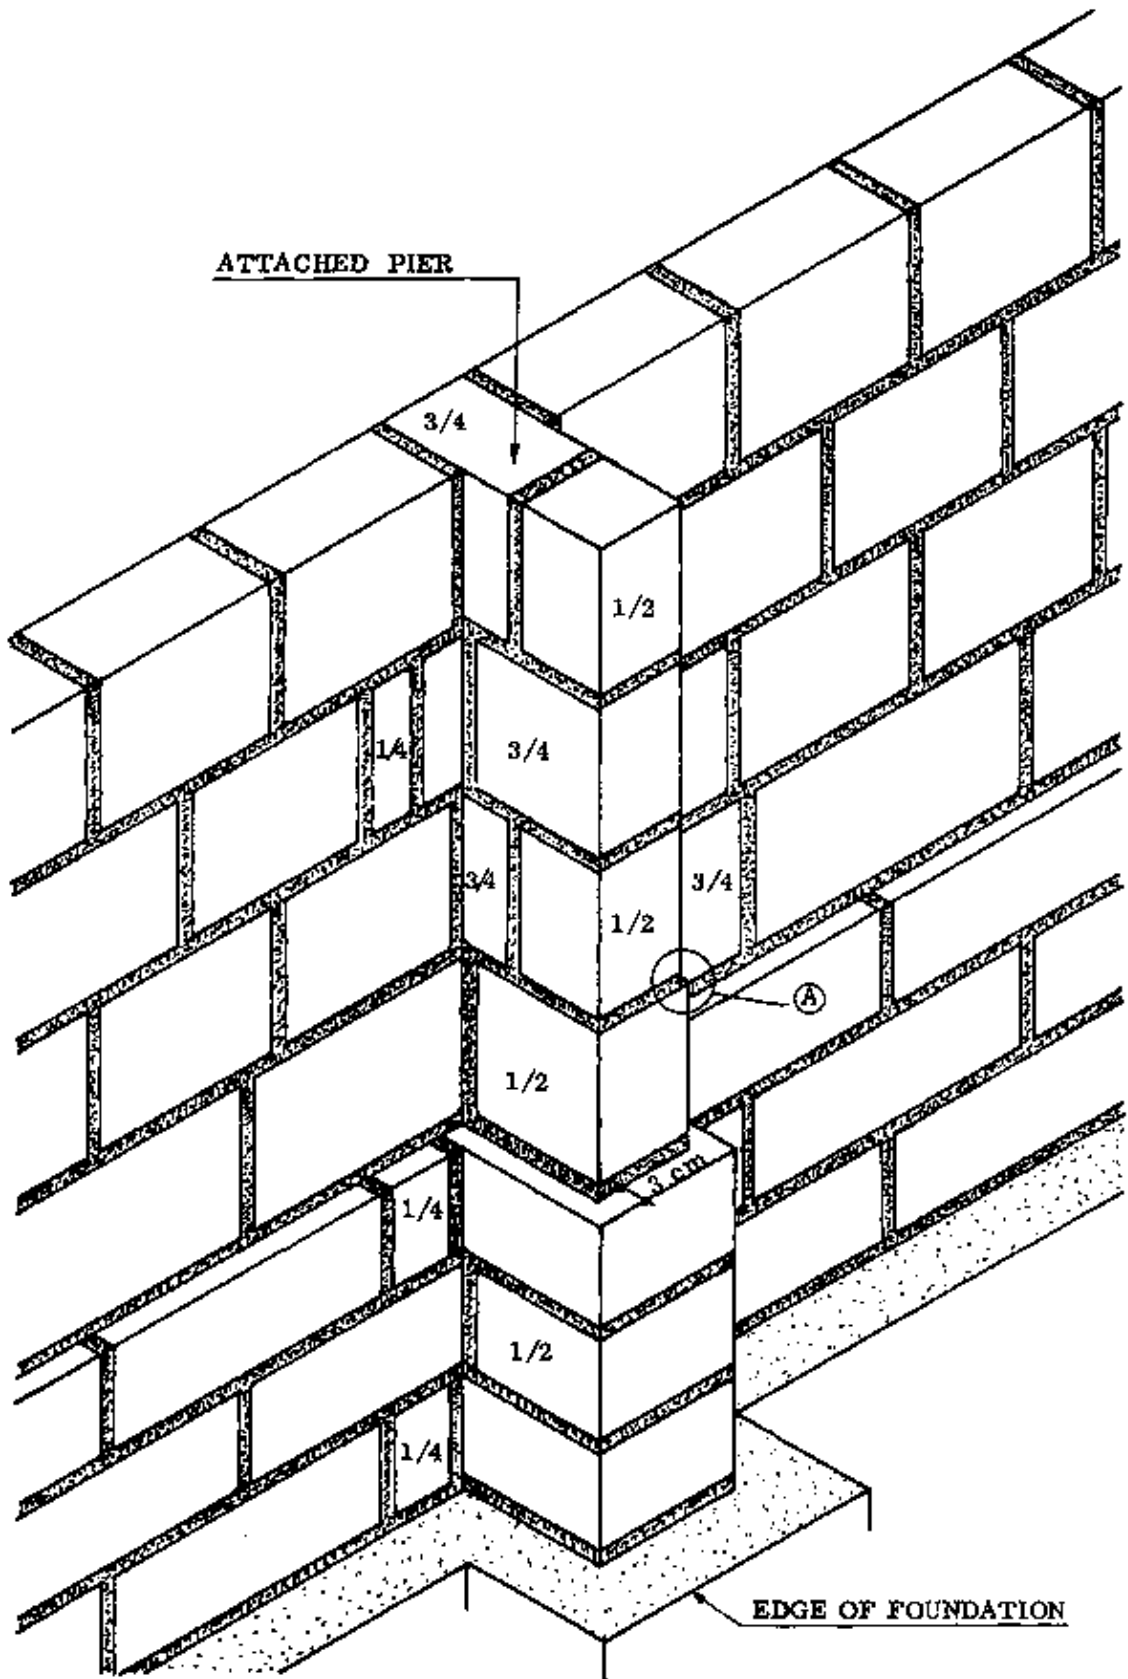

Fig. 1
The construction of an attached pier is very similar to that of a T-junction. The only difference is that the wall which joins the front wall is very short, and with a stopped end, thus forming an attached pier (Fig. 1).
– NOTE: The plinth course is set back everywhere from the footings by 4 cm, except on the back side of the attached pier where it is set back only 3 cm (Fig. 1).